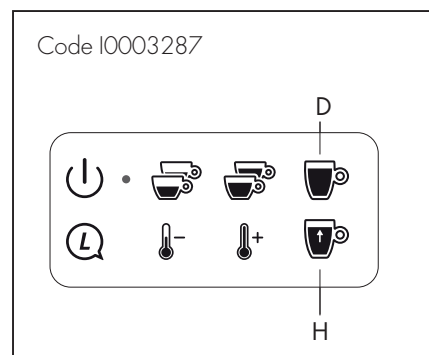

Fig. 12
For Code **I0003287**, button (D) dispenses 240 cc and button (H) dispenses 90 cc; so make sure that the container used is suitable for the quantity dispensed (Fig. 12).